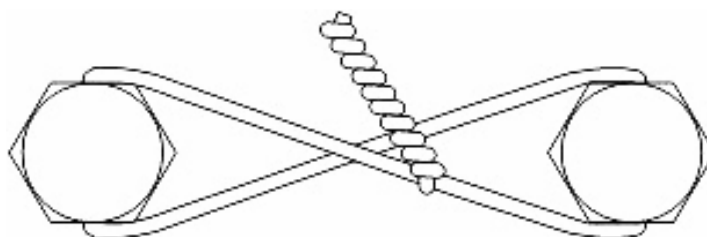

Figure 27.2: Arrangement of Locking Wire
- 27.3 When the two bolts retaining each keeper plate have been fully torque tightened, wire lock the bolt heads together in a figure of eight using 1mm grade 316 annealed stainless-steel wire. The wire shall be configured to prevent anti-clockwise rotation of the bolt heads, using wire locking pliers to leave a twisted length of approximately 25mm (see Figure 27.2). Check that the wire has not fractured during tensioning.